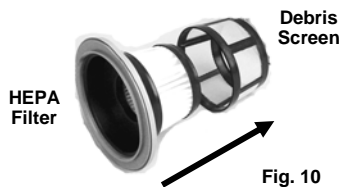

Fig. 10
5. Separate the debris screen from the HEPA filter cartridge by grasping the debris screen with one hand and the filter frame with the other and pull apart. (Fig. 10)